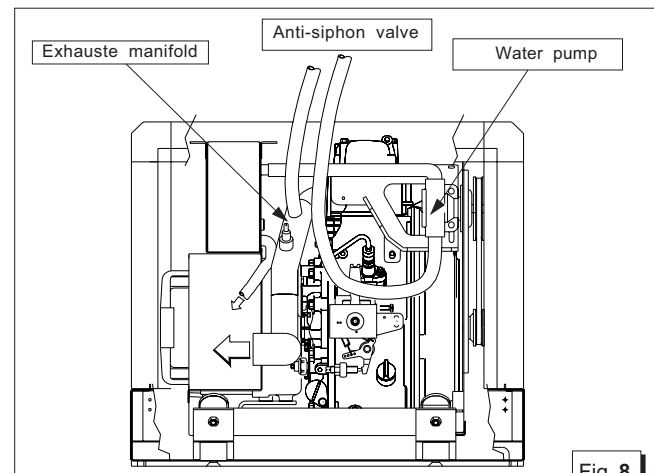

Fig. 8
**It must be installed when the generator is fitted with the drainage mixer on or beneath the water line, and should be positioned at least 50 cm above water level.** (see fig. 8/9)